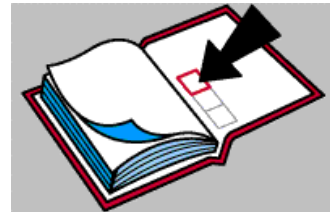

Figure 5: High Placement
- Alternately high, medium, and low in the book (**Figures 5, 6, and 7**).